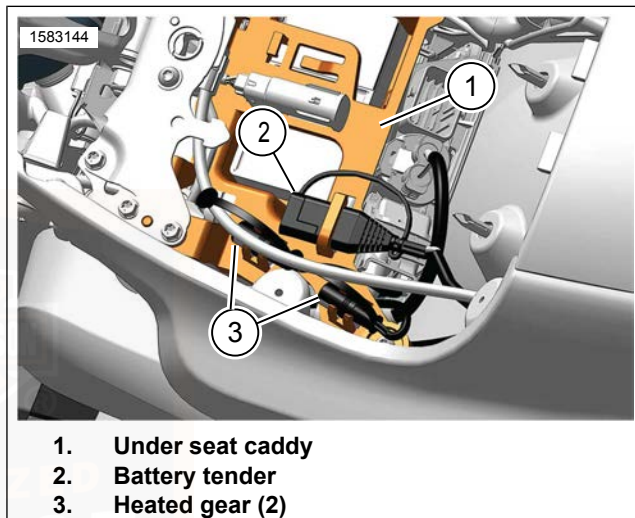
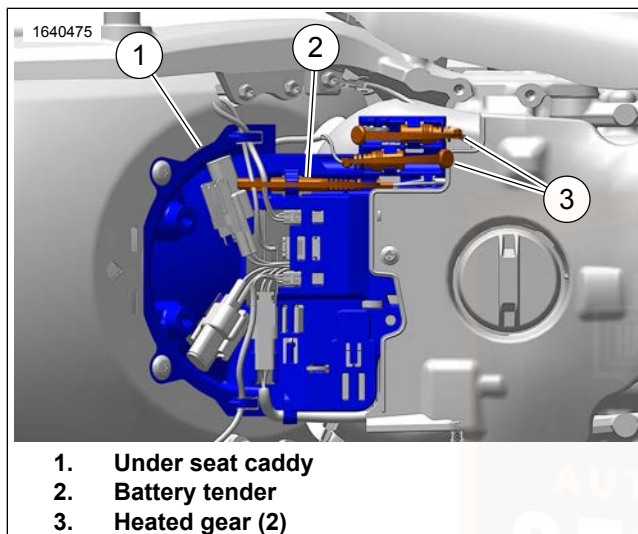

Figure 48. Under Seat (Top Mounted Fuel Tank)
Figure 49. Under Seat (Fuel Tank Under Seat)
See Figure 48 or Figure 49. The heated gear connectors (3) are stored under the seat in the under seat caddy (1). When
2. See Figure 48 or Figure 49. Remove the heated gear connectors (3) from storage location on under seat caddy (1).